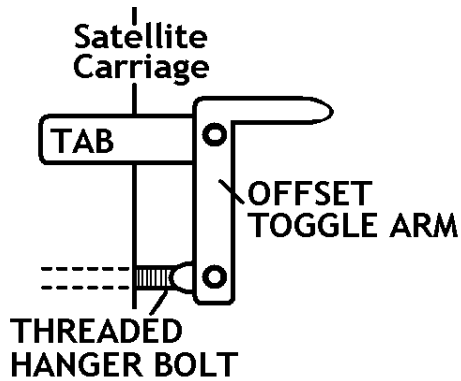

Figure 26 - Satellite-Carriage End of Reversing Mechanism
52 Screw threaded hanger bolt from parts sack into threaded hole on reversing rod end closest to bin wall until bolt holes on threaded hanger bolt and toggle arm align. **Figure 26**.
- 53 Bolt threaded hanger bolt (now screwed into reversing rod) to toggle arm using a 5/16" shoulder bolt and 1/4" locking nut. Ensure reversing mechanism is still in centered position; toggle arm should still be parallel to edge of carriage. **Figure 26**.